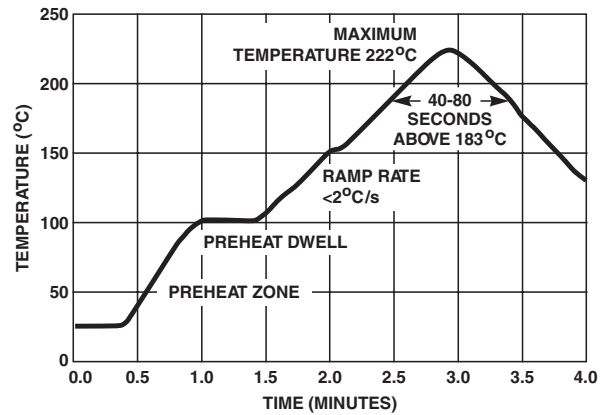

FIGURE 14. REFLOW SOLDER PROFILE
The principal techniques used for the soldering of components in surface mount technology are Infrared (IR) re-flow, vapour phase re-flow and wave soldering. Typical profiles are shown in Figures 14, 15 and 16. When wave soldering, the ML suppressor is attached to the circuit board by means of an adhesive. The assembly is then placed on a conveyor and run through the soldering process to contact the wave. With IR and vapour phase reflow, the device is placed in a solder paste on the substrate. As the solder paste is heated, it re-flows and solders the unit to the board.